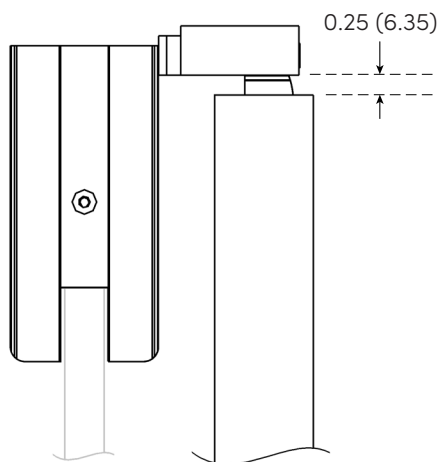

Figure 6-4
- The Latch can be adjusted up and down. Figures 6-4 and 6-5 show the maximum and the minimum dimensions for the Strike location.
- Figure 6-4 is for the maximum height from the top of the Tube to the bottom of the Strike.